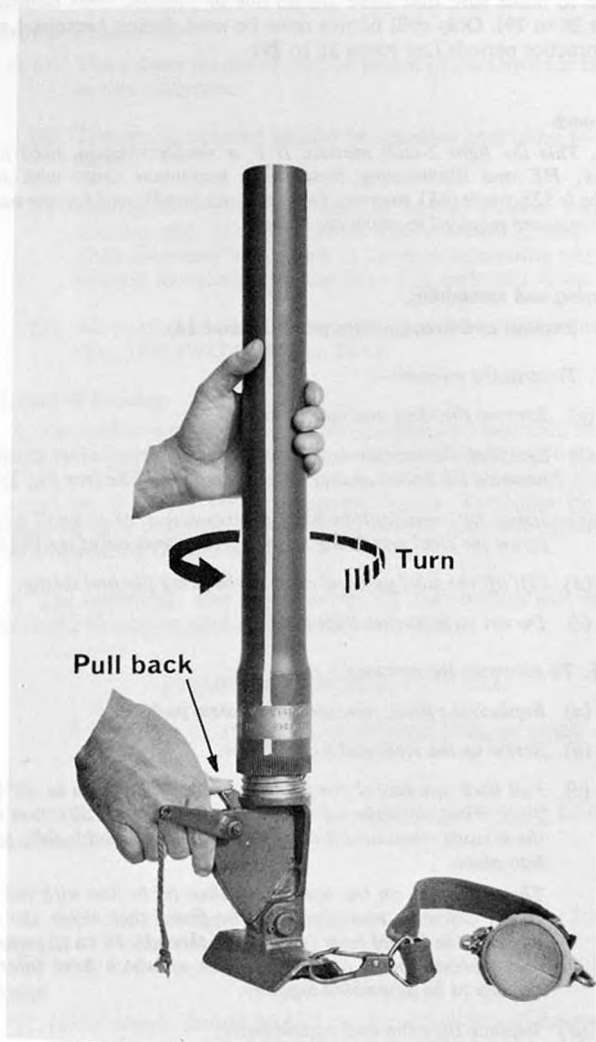

Fig 2.—Taking off the barrel
- (b) *See that the mortar is empty. Pull back the barrel catch, and unscrew the barrel anti-clockwise until it is free (see Fig 2).*